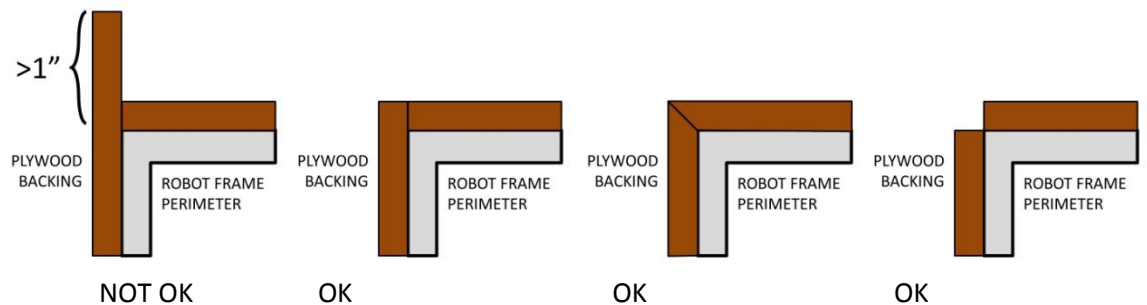

Figure 4-4
[R28] Bumpers must be constructed as follows (see Figure 4-4):
- hard Bumper parts (e.g. plywood, fasteners, etc) may not extend more than 1 in. beyond the end of the Frame Perimeter (see Figure 4-4).